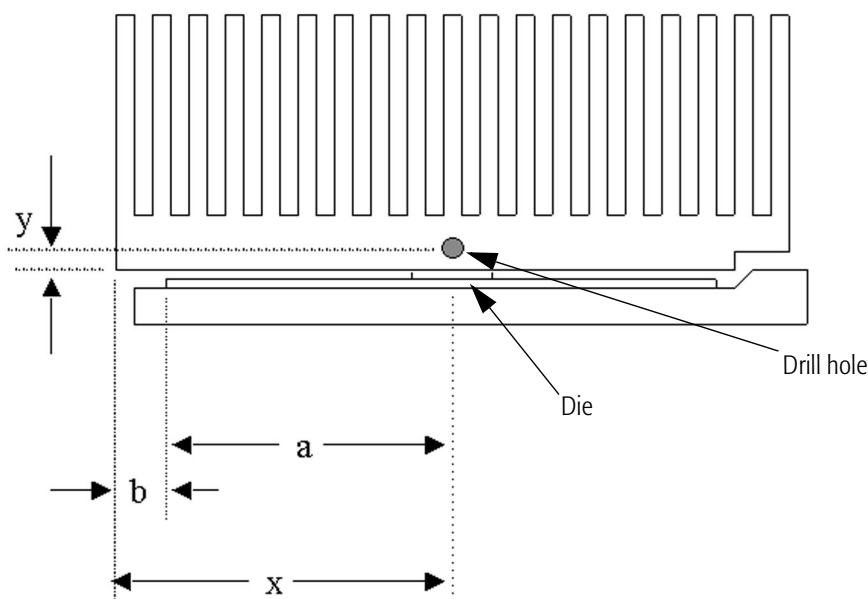

Figure 7. Measuring Thermocouple Position
1. Mark a location on the base of the heatsink as shown in Figure 7. Determine the position of the thermocouple hole using the following measurements: